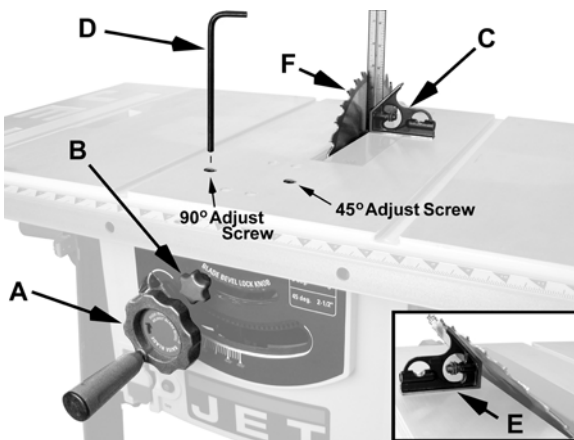

Figure 19
Referring to Figure 19:
5. While maintaining the hold on the handwheel, use a 6mm hex wrench to turn the *90° Adjust Screw* (Figure 19) until the blade is 90° to the table.
6. Tighten the *blade tilt lock knob* (B).
5. While maintaining the hold on the handwheel, use a 6mm hex wrench to turn the *45° Adjust Screw* (Figure 19) until the blade is 45° to the table.
1. Using the handwheel (A, Fig. 19), raise the saw blade as high as it will go.
1. Using the handwheels, raise the blade arbor fully and lock the saw at zero degrees (see steps 1–3 in the *90 Degree Positive Stop* section); then tighten the *blade tilt lock knob* (B, Fig. 19).